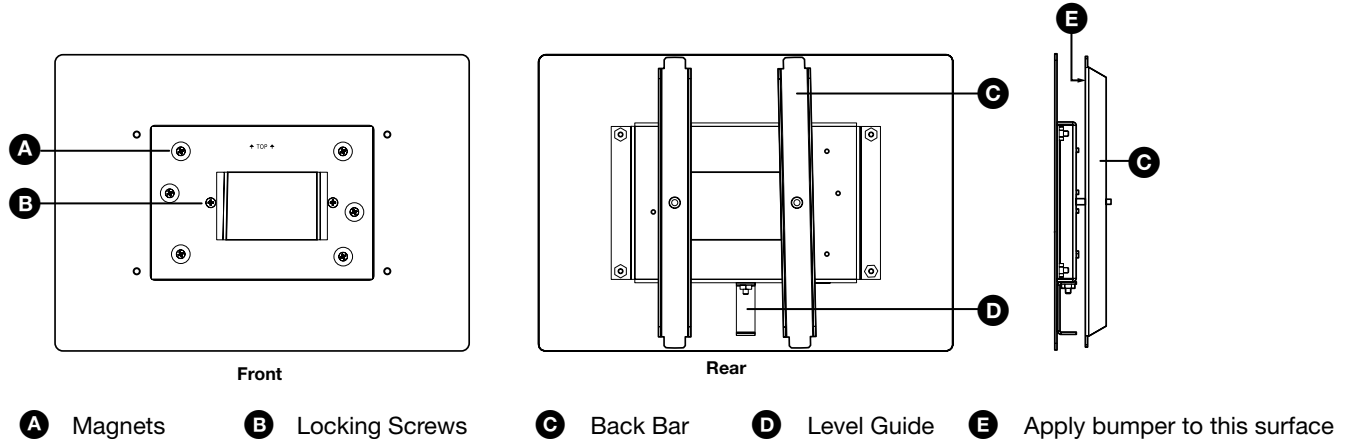
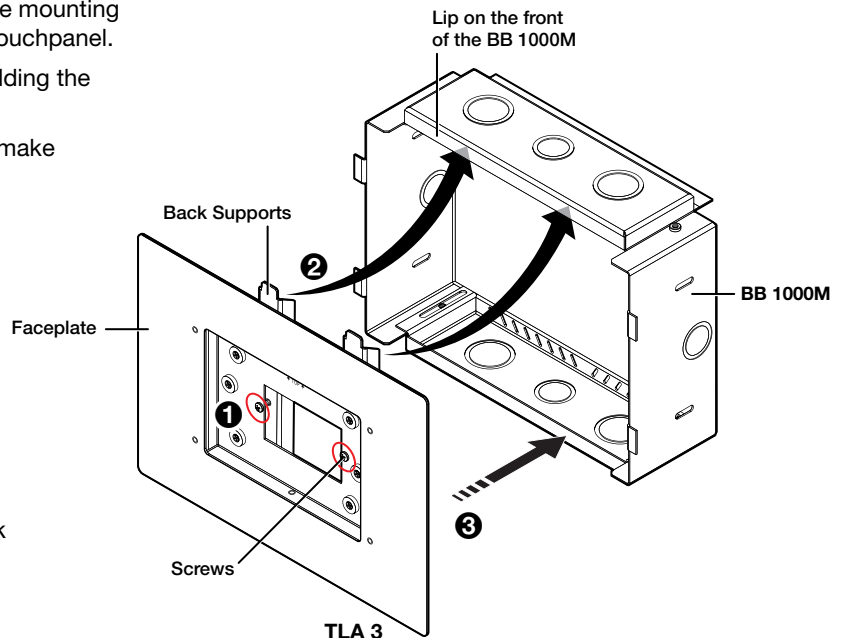

Figure 1. TLA 3 Front and Rear Panels
Figure 2. Installing the TLA 3 in a Back Box
Figure 2 shows how to install the TLA 3 into a preexisting back box.
2. Loosen the locking screws (see figure 1, **B**) holding the back bars (**C**) of the TLA 3 (see figure 2, **1**).
6. Make sure the TLA 3 is seated correctly. The level guide on the back of the unit (see figure 1, **D**) should sit on top of the lower lip of the back box.
2. If the drywall is less than 5/8" (16 mm) apply the four provided bumpers to the ends of the back bars on the inside surface (see figure 1, **E**, on the previous page).
7. The level guide on the back of the unit (see figure 1, **D**, on the previous page) should sit on top of the bottom edge of the hole.